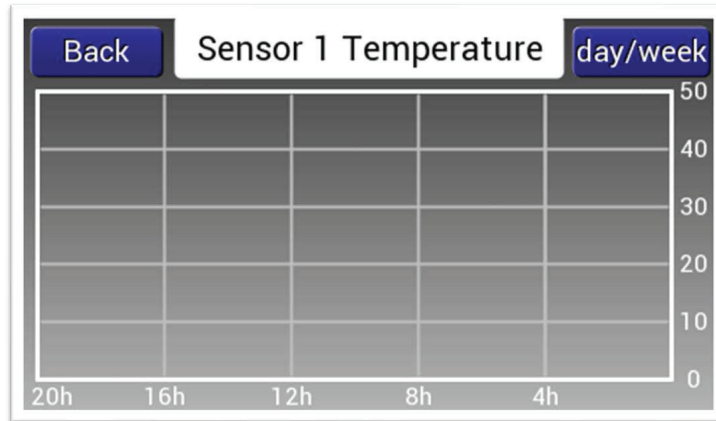

Fig. 8
- Readings of the temperature sensors measurements (T1) and combo (T2, H2). Pressing the field of a given measurement will result in switching to the chart drawing screen covering a period of 24 hours or 7 days, illustrated in Fig. 8.